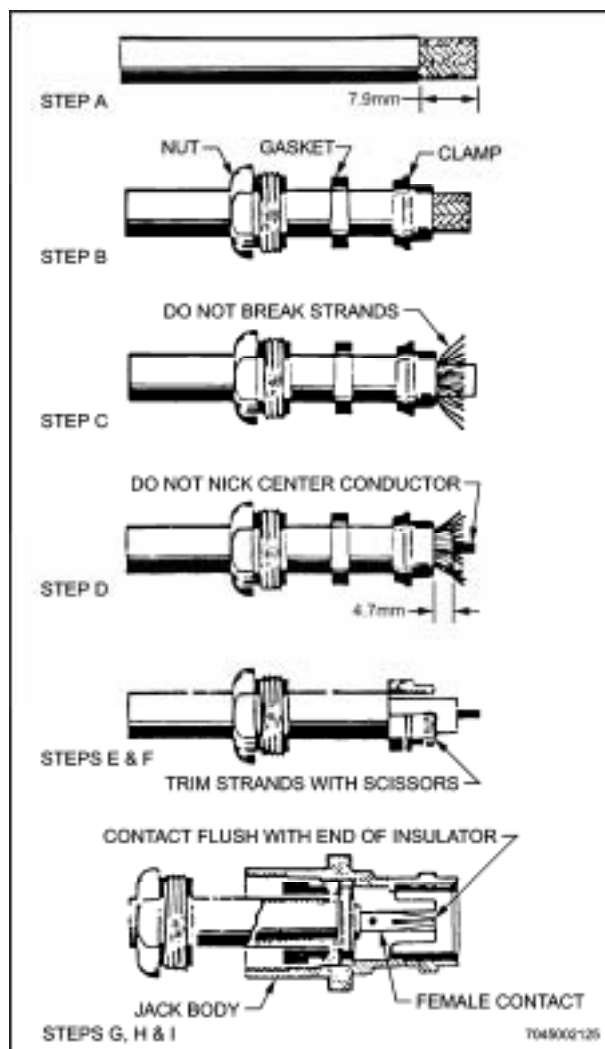

Figure 12–19 Attaching Improved BNC Connectors to Coaxial Cable
- g. Tin centre conductor as shown in Figure 12–10. Tin inside of pin or socket as shown in Figure 12–11.
- h. Slip contact over centre conductor so that contact butts flush against dielectric. For RG-62/U and 71/U, add bushing. Solder, using a clean, well tinned, soldering iron. Contact must still be flush against dielectric after solder has cooled; if it is not, remake the joint. (See Figure 12–12.)
- i. Push cable assembly into connector body as far as it will go. Make sure gasket is properly seated, with sharp edge of sleeve clamp entering gasket groove. Slide nut into connector body and fasten in vice. Start nut by hand and tighten with end spanner until enough pressure is applied to make a good seal by splitting the gasket. (See Figure 12–13.)
14. When attaching BNC connectors with captivated contacts to coaxial cable (see Figure 12–20), follow this procedure: